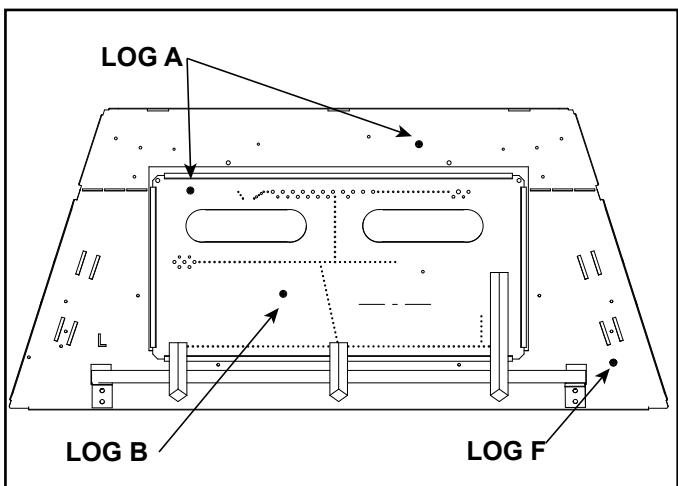
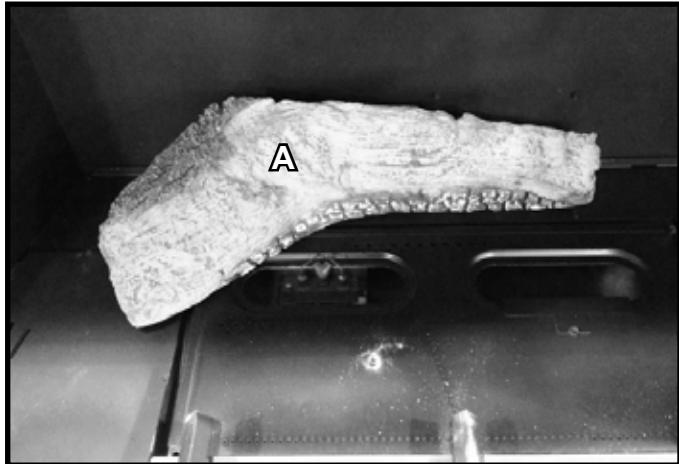
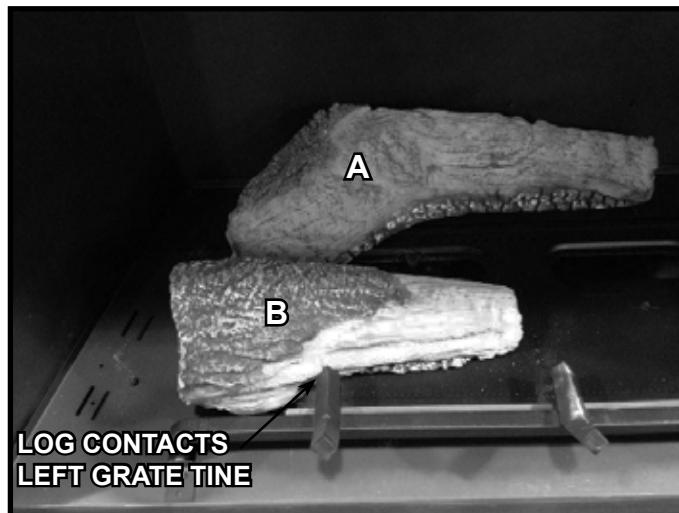

Figure 4. LOGSDBDV36 Log Pin Locations
Figure 5. Log A Installed
Figure 6. Log B Installed
1. (LOG A): Locate the two pin holes on the bottom of Log A. Hold the log so that the flat spot is facing the rear of the appliance and the pin holes are facing the base pan. Place Log A over the two pins referenced for Log A in Figure 4. Refer to Figure 5.
2. (LOG B): Locate the pin hole on the bottom of Log B. Place pin hole on Log B over the pin referenced for Log B in Figure 4. Hold the log over the pin and rotate the left side of the log until it contacts the left grate tine. See Figure 6.